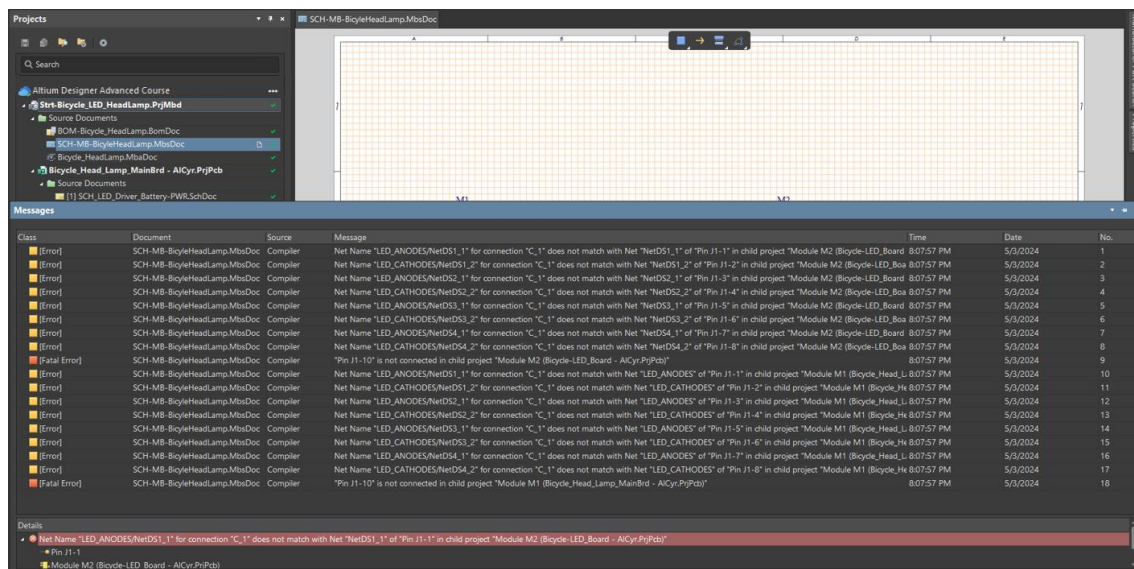

Figure 19. ERC results in Messages panel
49. The *Message* panel will appear displaying the errors found, as seen in Figure 19 below. Let's discover these error messages and develop an understanding of how the messages were interpreted by Altium Designer.